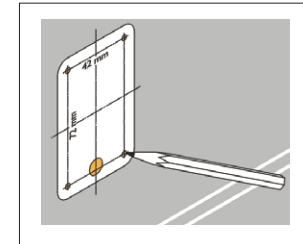

Fig. 2
- 2 - Mark the location of the mounting holes using the drilling template supplied with the photo eyes (Fig. 2);